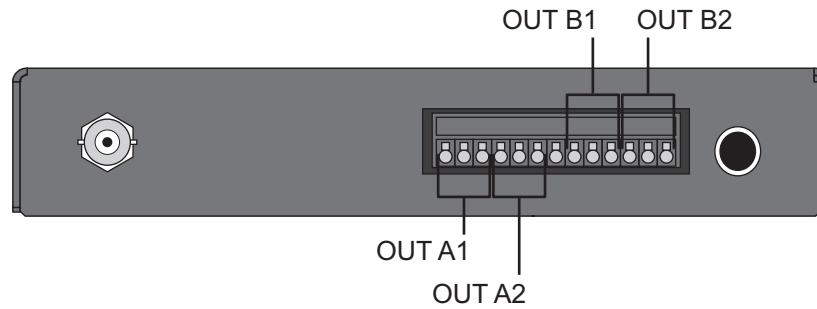

Figure 5.2 DAC-9516 — ANALG Audio Connections
2. Verify the silk-screen on the DAC-9516 chassis and **Figure 5.2** to locate the pins for each input (A, B).